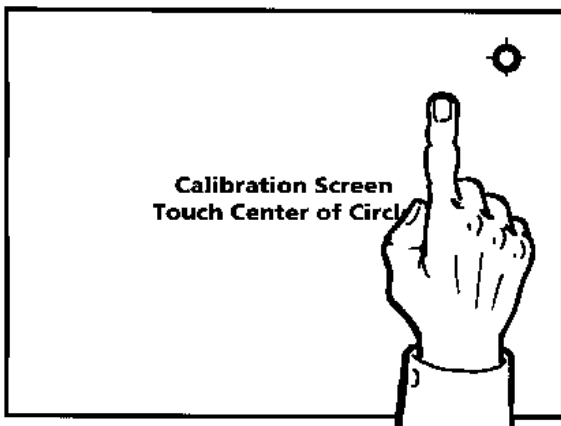

Figure 1a
1. Enter calibrate mode. When the first dot appears, intentionally touch the screen about 1" away from the dot, diagonally, towards the center of the screen (repeat this procedure for the second calibration dot; see Figures 1a and 1b). You are now in TEST SCREEN mode. As you test the screen, you should notice that the crosshair is considerably out of calibration. By completing this step, you have shown that the machine is accepting calibration input.